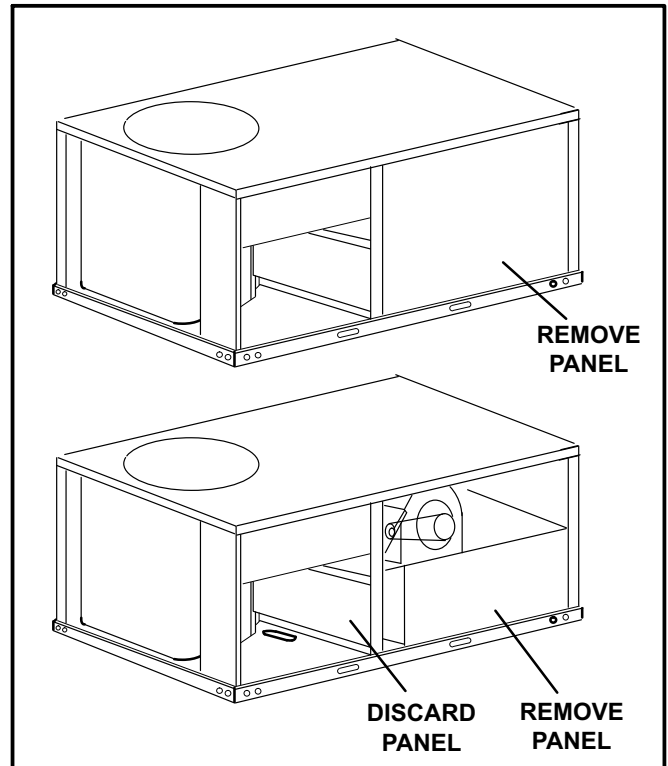

FIGURE 1
- 2- Remove panels as shown in figure 1 and 2.